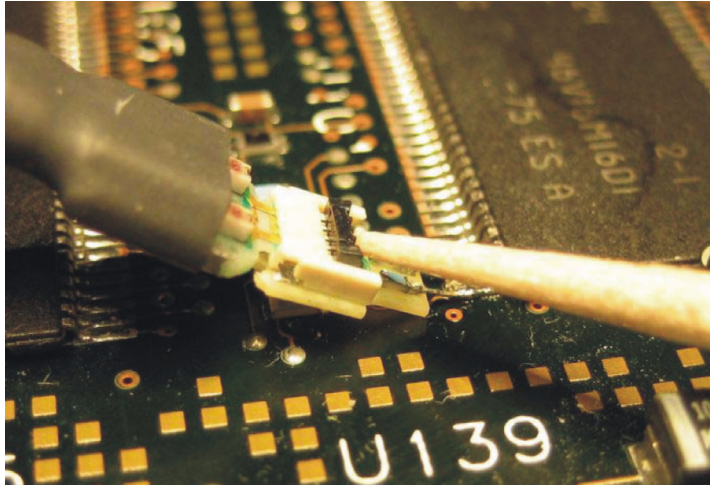
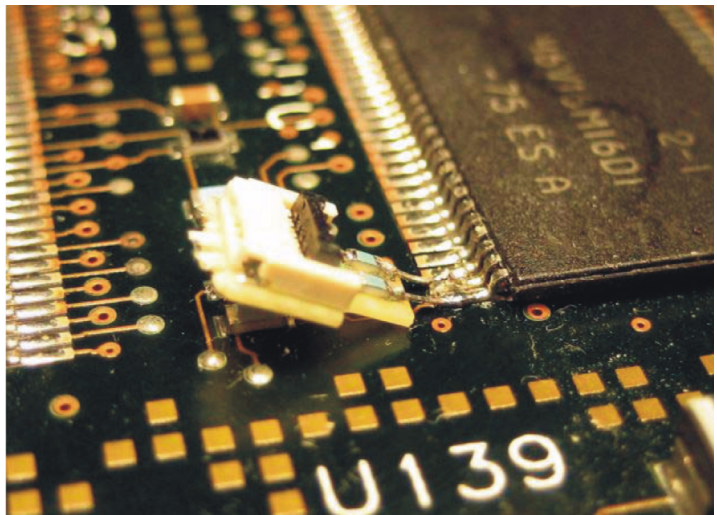

Figure 3-21 Using non-conductive tool to open the ZIF connector
Figure 3-22 ZIF Tip left behind in DUT with ZIF latch open
- 5 Remove ZIF probe head and leave ZIF tip behind for future connection. It is best to use a non-conductive, pointed object such as a tooth pick or plastic tool. Hold on the heat-shrink part of the probe head to support the ZIF tip while releasing the latch. **Figure 3-21** shows a toothpick releasing the latch on the ZIF connector and **Figure 3-22** shows the ZIF tip left behind in the DUT with the latch open, ready for future connections.